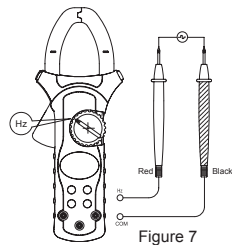

Figure 7
- Connect the test leads to the proper terminals as said above to avoid error display. The LCD will display **OL** indicating diode being tested is open or polarity is reversed. The unit of diode is Volt (V), displaying the forward voltage drop readings.
F. Measuring Frequency (See Figure 7)